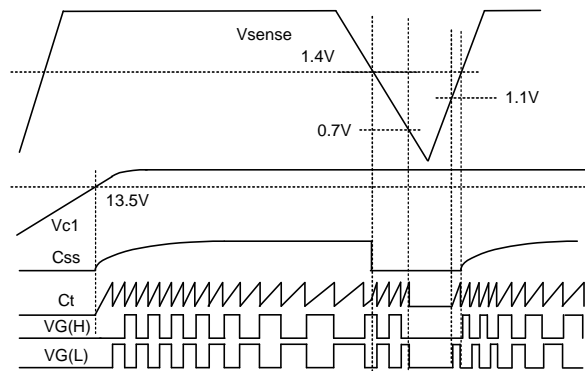

Fig.12 Vsense brown out timing diagram
**Vsense** terminal monitors the input voltage for halting gate drive pulse and varying the frequency. UVLO function avoids below-resonant state caused by supplying **Vbulk** remaining Vc1 is applied, brown-out (quick decrease of input voltage) or black-out (instantaneous interruption). Timing diagram of brown-out protection is shown in **Fig.12**. High side resistor of voltage divider is **RvsenseH** :greater than 3Mohm is recommended. Required minimum sink current of Vsense terminal is 1uA. Low side resistor, **RvsenseL**(init) is obtained from formula(3) and correct value of **Vbulkreset** threshold is obtained from formula(4) by using actual value of **RvsenseL**. This 1.4V threshold is for **Css** resetting without hysteresis, and 1.1V is for ON/OFF with 0.4V hysteresis. Vsense pin can be simply used for ON/OFF function.